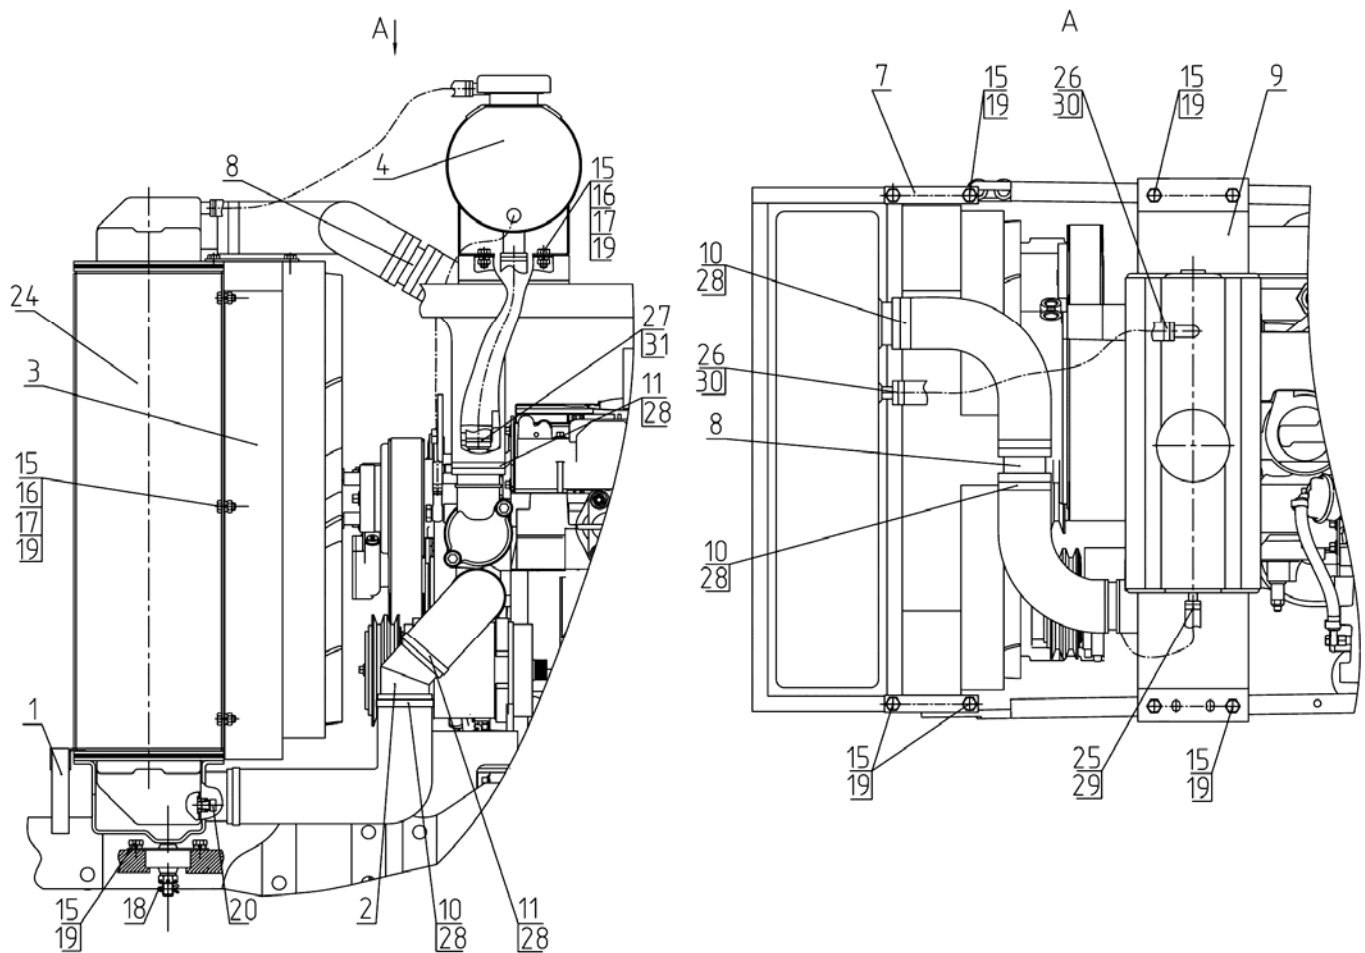

Figure 3.14 Cooling system
- disconnect hose 10, sleeves 29, 30, 31 from radiator 24 (Figure 3.14);